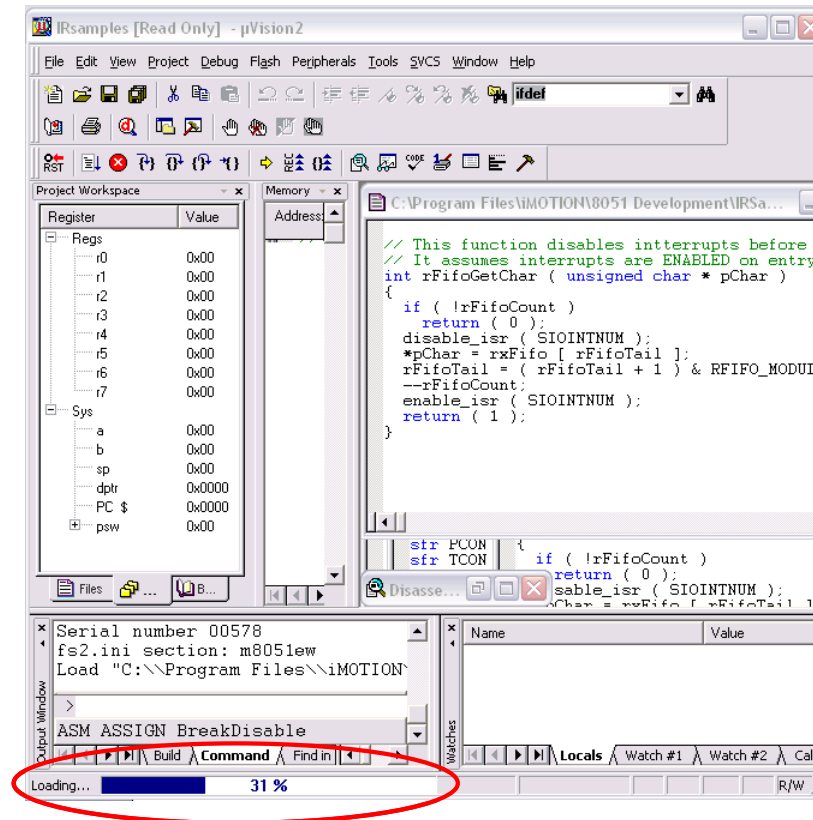

Figure 8—uVision window during 8051 program load.
3. Choose Debug→Start/Stop Debug Session. The FS2 Console should come up briefly and a status bar in the lower left corner will display the progress in loading the 8051 code to RAM, shown in Figure 8 below.